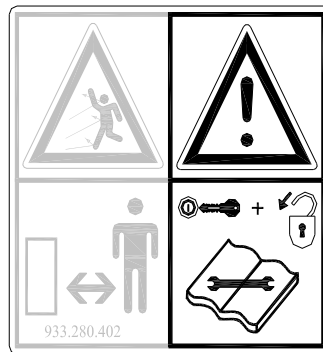
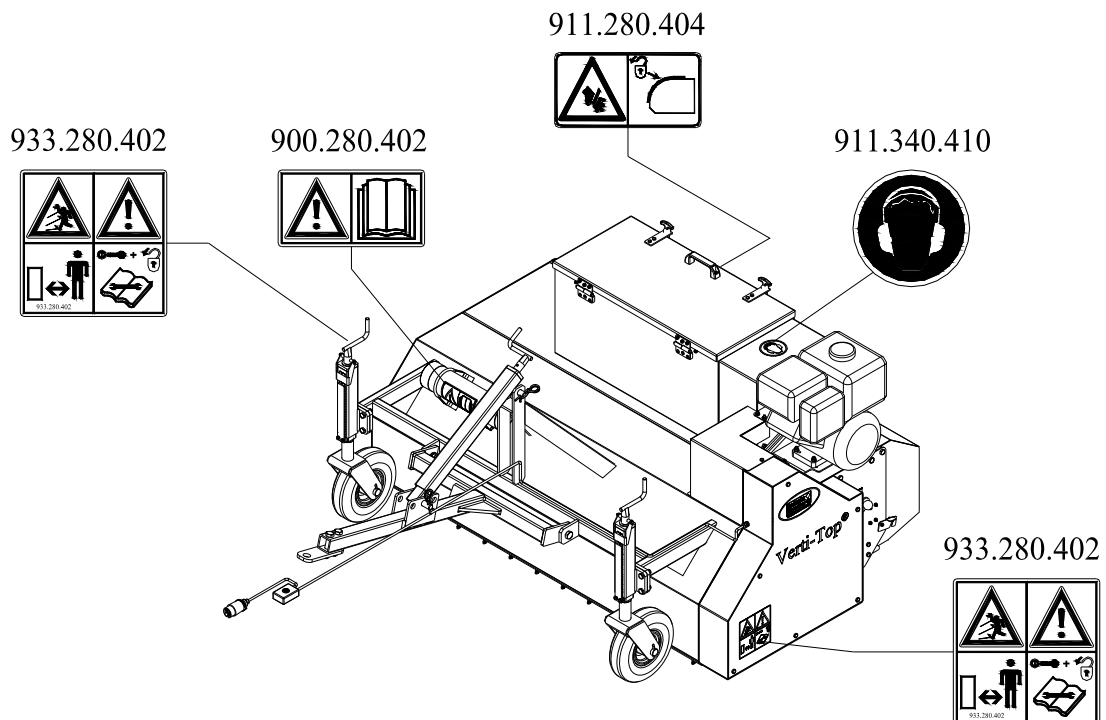

Figure 2
Fig. 5
**Always switch off the towing vehicle's motor and take the vehicle's key out of the ignition** in carrying out maintenance, adjustments and repairs (Figure 2).
Safety stickers (Figure 2, 3 and 4) with an identical meaning are attached to both sides (Figure 5) of the Verti-Top Tow Behind. These safety stickers must always be clearly visible and legible and must be replaced if they have become damaged.
7. Location of the safety stickers (Figure 5).